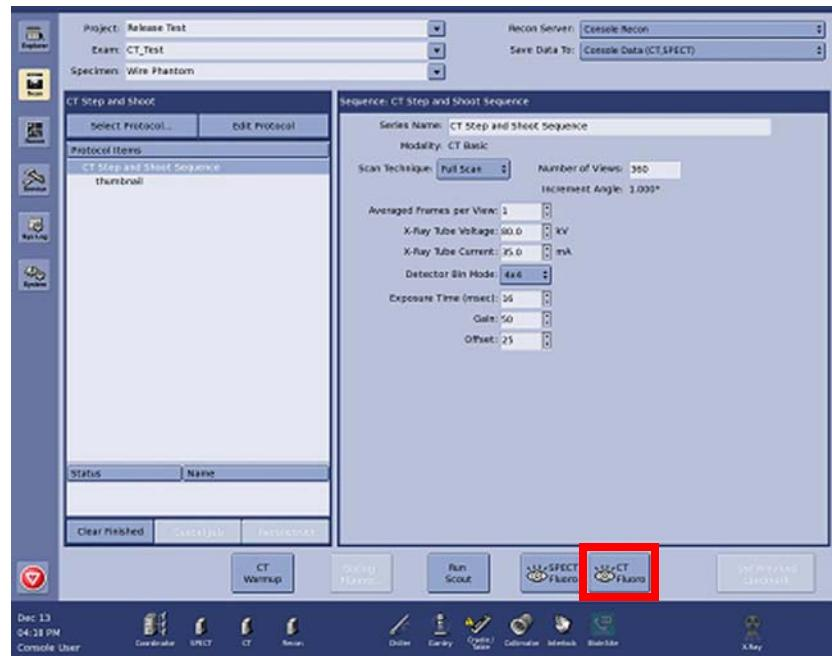
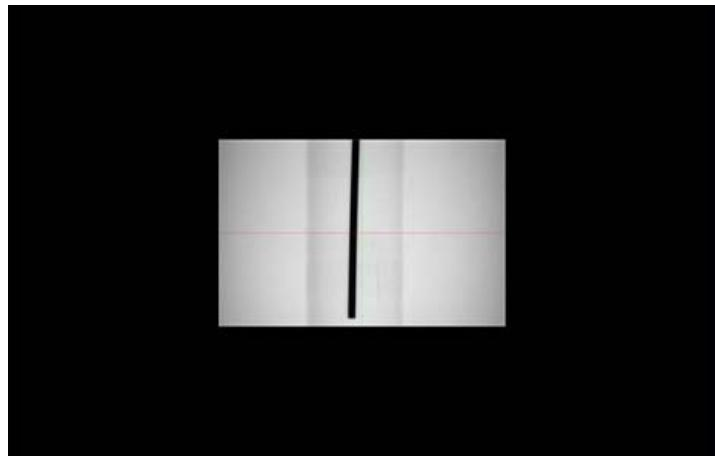

Figure 7-115
Figure 7-117
8. Navigate to the scan page (Figure 7-115).
9. Click the CT Fluoro button (highlighted in Figure 7-115) to begin a fluoroscopic scan. If the CT Fluoro button is disabled, check the interlocks.
5. Navigate to the scan page and click the CT Fluoro button (Figure 7-115). The cradle will automatically be positioned in the CT scan plane. Click the Start X-Rays button to begin collecting CT images. These will appear on the viewer displayed on the rightmost monitor (Figure 7-117).
8. Click the SPECT Fluoro button (refer back to Figure 7-115) to start a SPECT scan. Again, the table will move automatically. This time, it is moving to the SPECT scan plane. As it moves into the SPECT field of view, the image displayed on the viewer will be smeared. Once the table stops moving, click the Reset SPECT Viewer button.